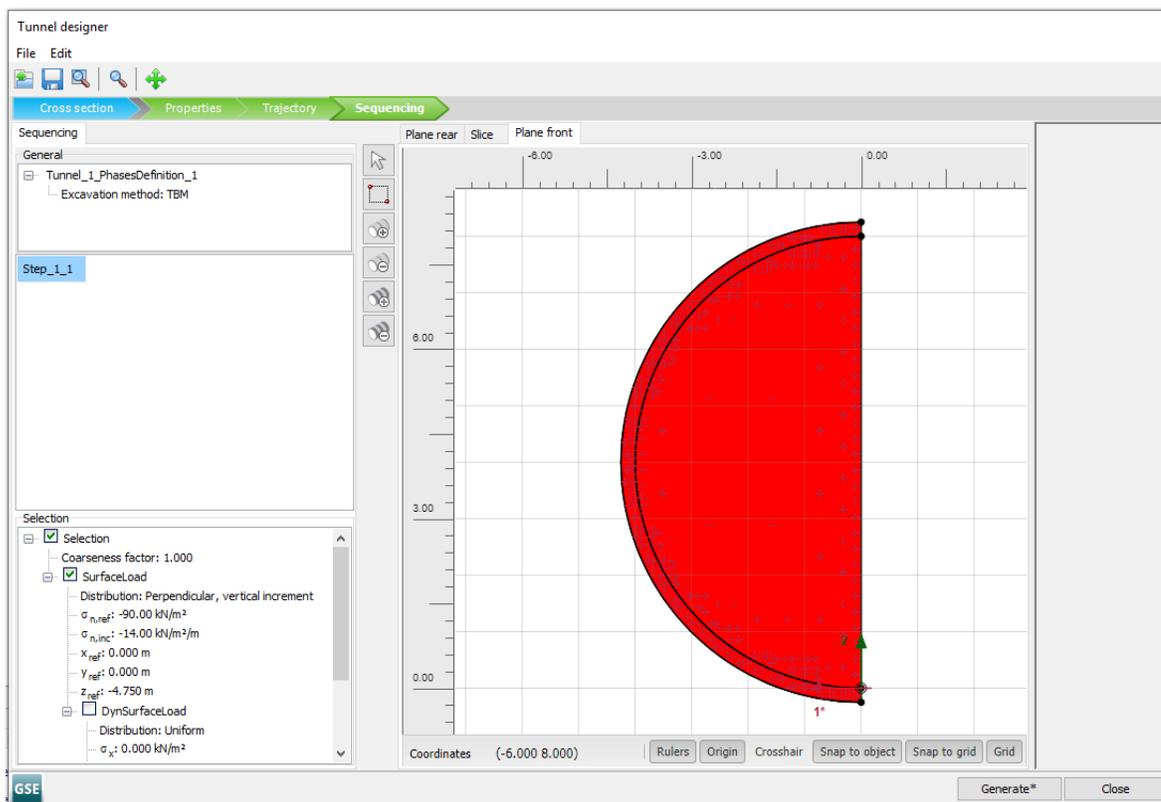

Figure 78: Plane Front tabsheet in the **Tunnel designer** for Step_1_1
- Go to the **Plane Front** tabsheet and select all the surfaces. Activate the surface load corresponding to the face pressure (Figure 78 (on page 105))